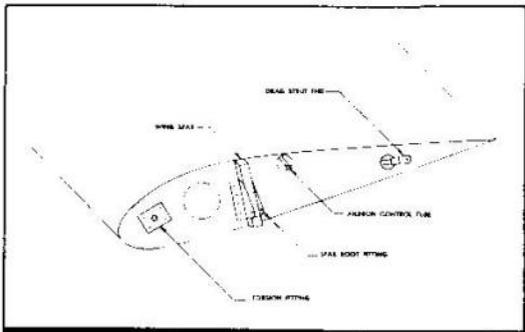

Figure 4 - Wing Butt Fittings
g. GLIDER ASSEMBLY. - A three-man crew is about the minimum number required to conveniently handle the glider. Either wing panel may go on first. One man on the wing tip and two at the root (one lifting the leading edge and one on the trailing edge) lift the wing into position, at the same time keeping the fuselage balanced. Enter the plug (or torsion fitting) on the leading edge about 1/2 inch. (See figures 4 and 5.)